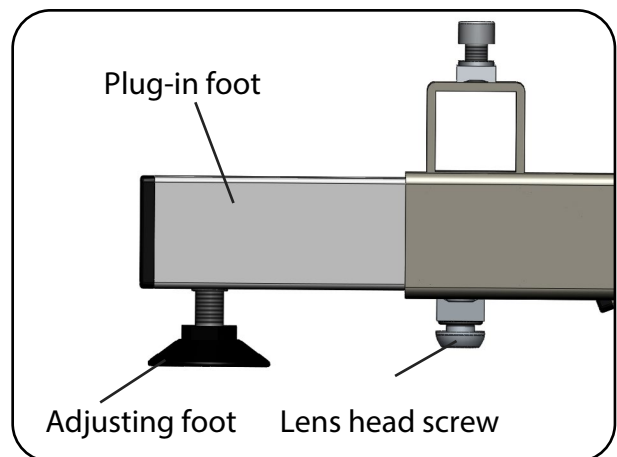

Fig. 6.7.04 - aks B4c with assembled plug-in feet
8. Insert the plug-in feet in the four openings of the lower frame (Fig. 6.7.04).
10. Now screw in the supplied M10 x 55 lens head screws and tighten them with the Allen key (Fig. 6.7.04).